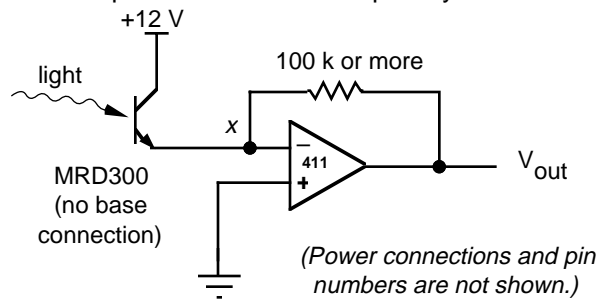

Fig. 9.2
b) [An analog oscilloscope must be used for this exercise to work.] Connect the MRD-300 as a phototransistor as shown in Fig 9.2. Now how much photocurrent is produced? Put the photodiode on the end of a twisted-pair wire so that you can put the diode up against the screen of the scope. This puts the scope in the feedback loop. Why is the diode so shy?